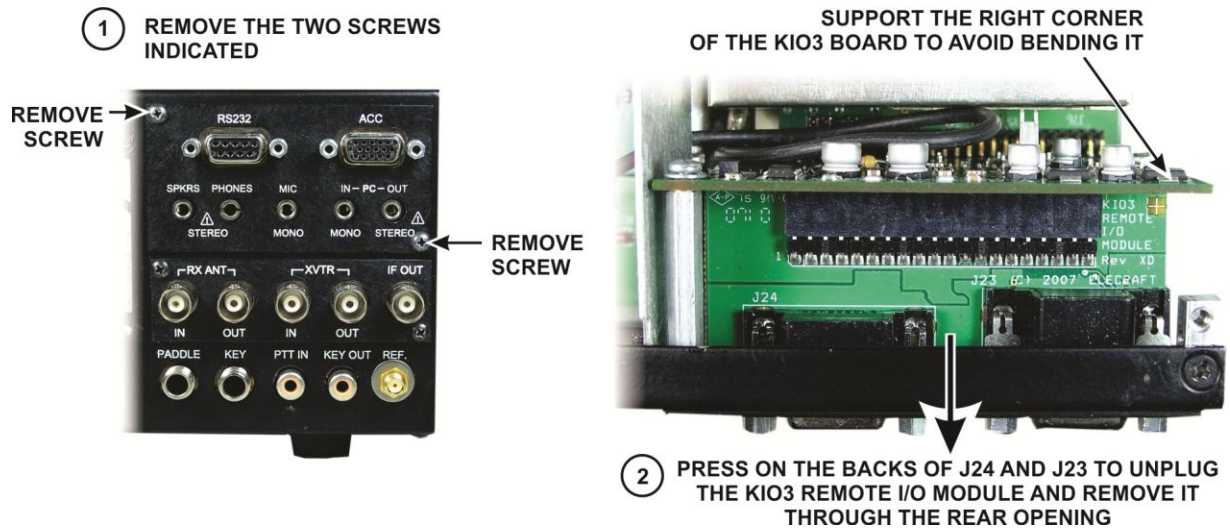

Figure 7. Removing the KIO3 Remote I/O Module.
- ☐ Remove the KIO3 Remote I/O Module as shown in Figure 7.
Replace the Remote I/O board, plugging it into the KIO3 board (Figure 7, pg 5). Adjust the position of the audio connectors so they fit through the holes in panel. Secure the panel with two 1/4" (6.4mm) black pan head screws.